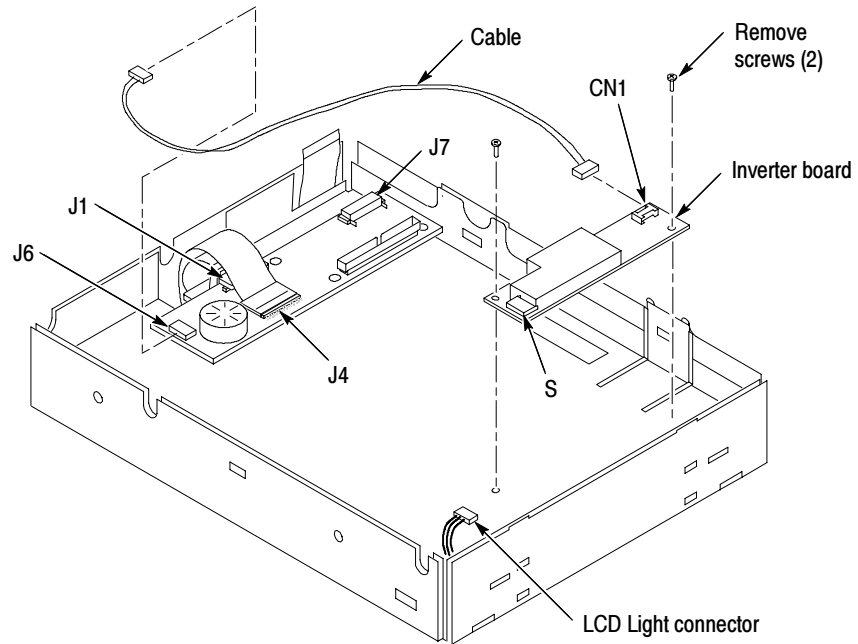

Figure 4: Remove inverter circuit board
- a. Disconnect cables J1, J4 and J7 from the Display Adapter circuit board. See Figure 4 on page 9.
- b. Disconnect LCD light connector (S) from the Inverter circuit board.